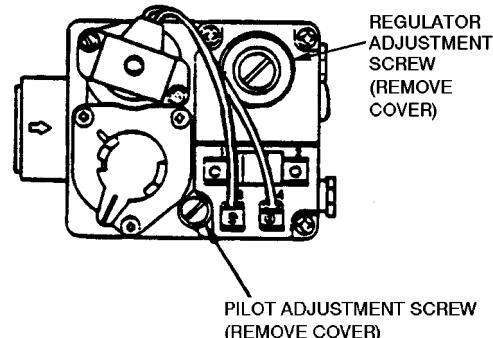

Fig. 37 — Gas Valve
6. Remove screw cap covering regulator adjustment screw (See Fig. 37).